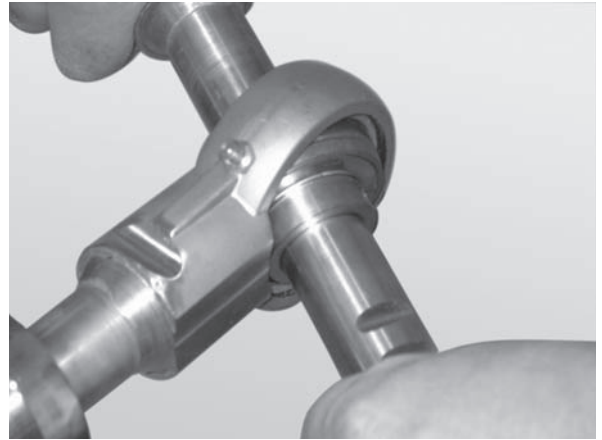

Figure 74
2. Insert the rod end of a second bearing shaft through the bearing (**Figure 74**).